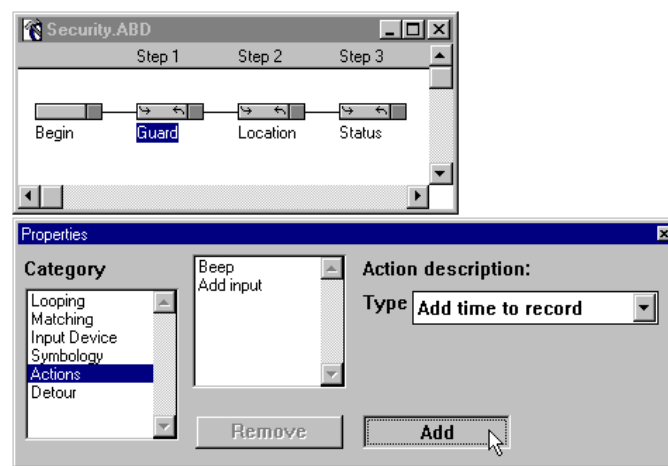
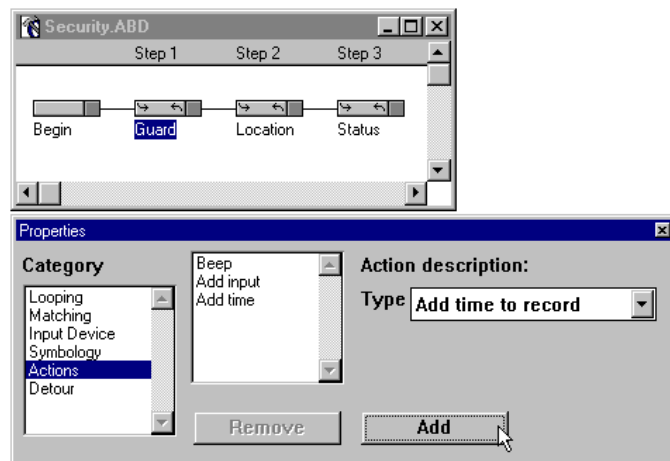

Figure 3-25 Actions Property - Add Action to Action List
Figure 3-26 Actions Property - Action Added to Action List
23. Click **Add** (Figure 3-25) to add the **Add time to record** action to the action list (Figure 3-26).